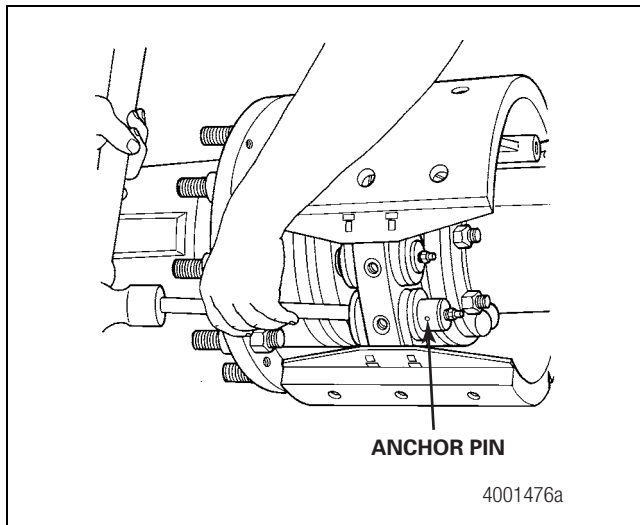

Figure 5.6
- From the inboard side of the spider, use a hammer and a brass drift to remove the anchor pin from the spider and the shoes. Figure 5.6.